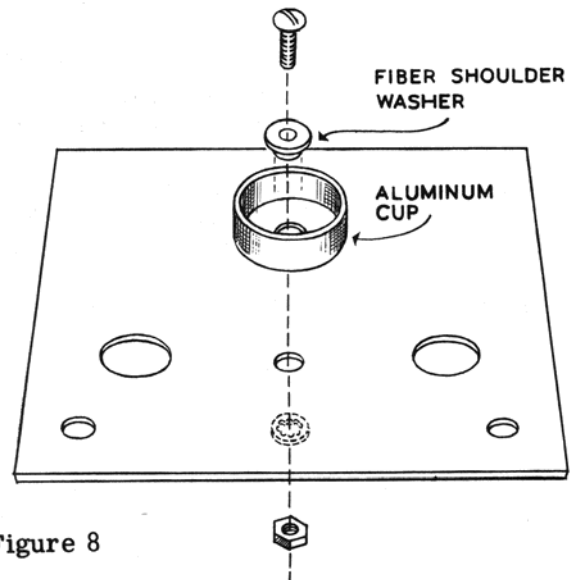

Figure 8
- ( ) Using 6-32 x 3/8" screw and fiber shoulder washer, install battery holder in position shown in Figure 8.